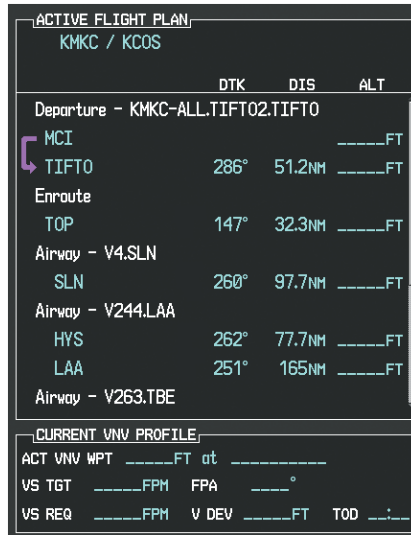

Figure 5-120 V4 is Loaded in the Flight Plan
l) V4 is now loaded into the flight plan as shown in Figure 5-120.